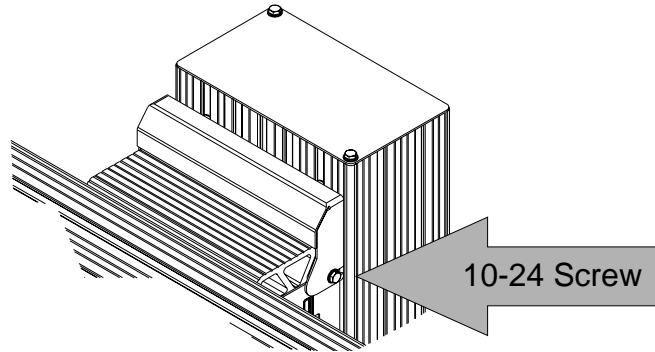

Figure 11
6. Install the upper and lower bracket covers onto the beam mount as shown in Figure 11. Loosen the hardware securing the communications board end plate, slide the covers under the 10-24x3/8 self tap screws. Requires a 5/16 socket or nut driver. Make sure the covers do not contact the vertical support beam. The beam will “float” on the ear washers.